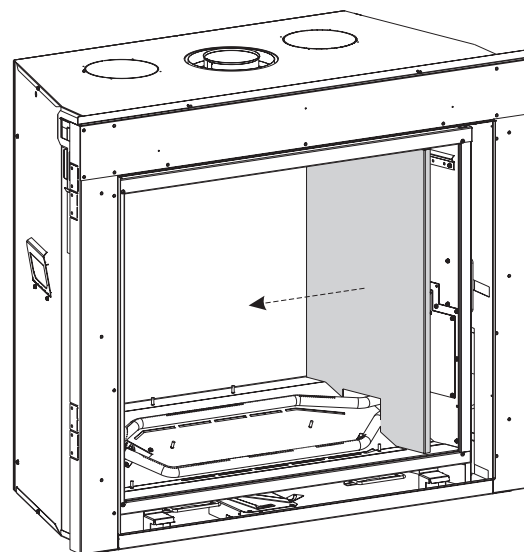

**Figure 76**
3. Remove the top liner bracket and top liner **See Figures 76 and 77.**